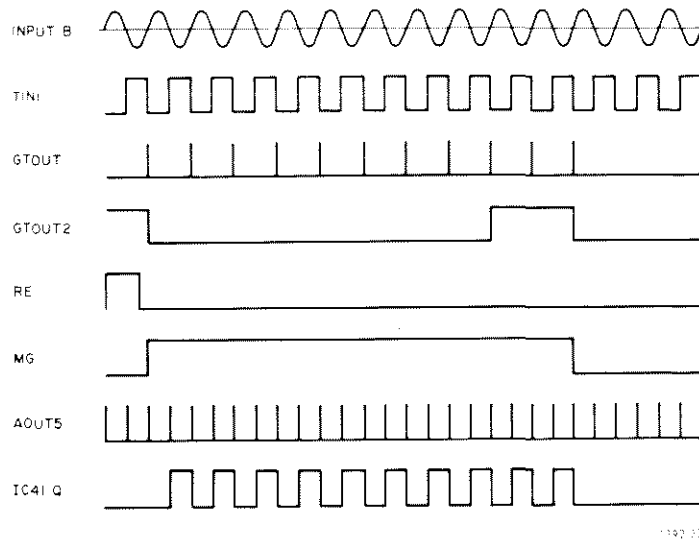

Figure 4-11. Ratio mode timing diagram.
4.9.5 Ratio A/B (Figure 4-11).